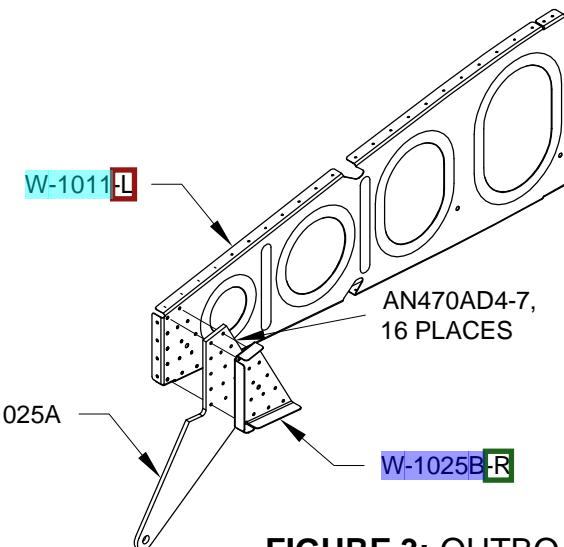

FIGURE 3: OUTBOARD FLAP HINGE ASSEMBLY
Step 5: Cleco the **W-1025B-R** Flap Hinge Rib and **W-1025A** Flap Hinge Bracket to the **W-1011-L** Inboard Wing Rib. Rivet the flap hinge rib and flap hinge bracket to the inboard wing rib as shown in Figure 3. Repeat this process to create two assemblies using the **W-1011-L** Inboard Wing Rib.